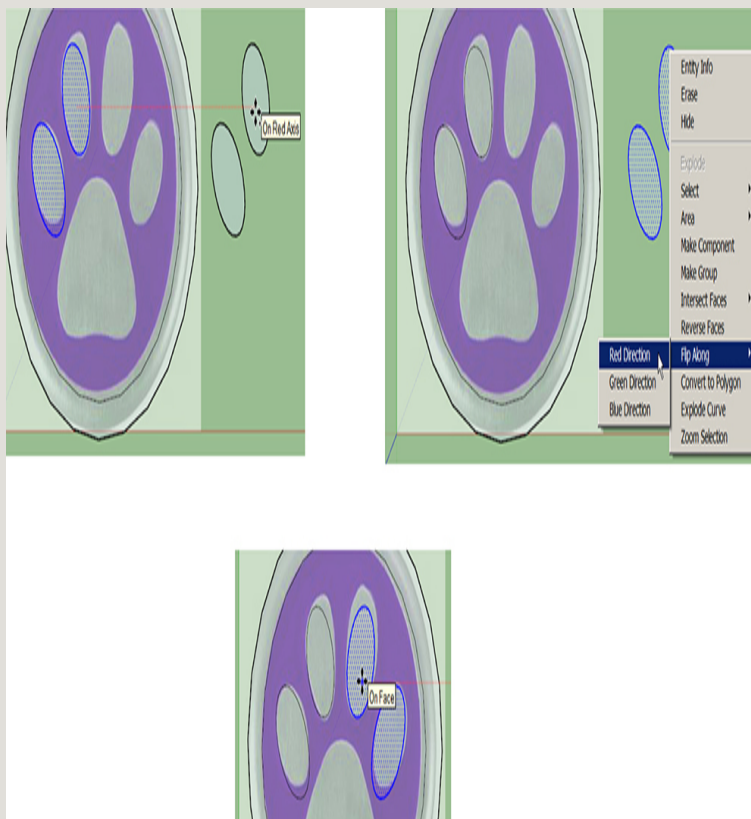

Figure 3-60 Mirror the pads by copying and flipping them.
- b.** Mirror the pads (Figure 3-60). First, copy them. To do this, select them (remember, you can do this by dragging a selection window around them, or you can double-click one, hold the SHIFT key, and double-click the second one), activate Move, and press CTRL. Make sure that you move the copies along the red axis—watch for its inference.